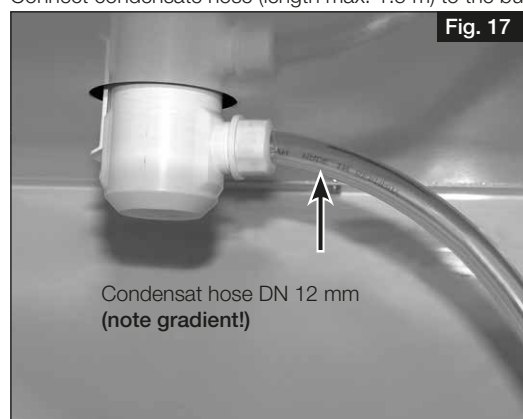

Fig. 17
6. Connect condensate hose (length max. 1.5 m) to the building drainage system (see Fig. 17).